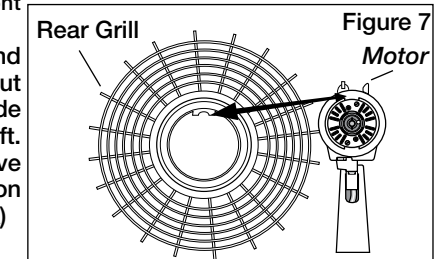

Figure 7
8. Tilt Head Assembly back. Put Rear Grill on Motor (Figure 7). Align tab of Plastic Rear Grill with groove on top of front Motor cover.